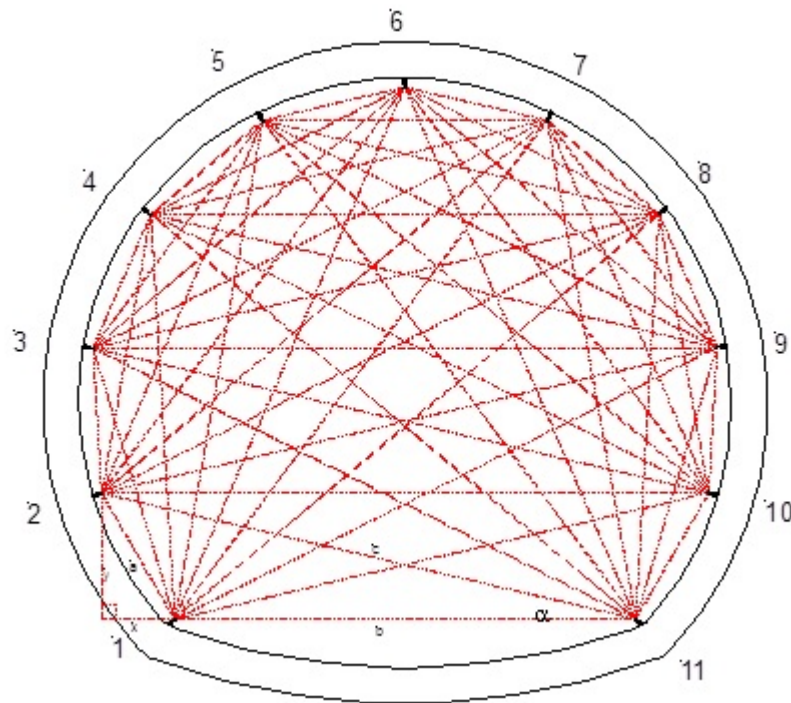

FIGURE 2-8 ACQUIRING ANCHOR COORDINATES
- 2 Measure the distance between each anchor. The distances “x” and “y” must also be obtained for every anchor relative to the first anchor measured to achieve the Anchor coordinates. Anchor Position “1” is (0,0). Refer to Figure 2-8.
It is highly recommended that baseline measurements be recorded using a RST Tape Extensometer following the same procedure as illustrated above and in Figure 2-8. Any movement occurrence may be verified by taking additional readings with the RST Tape Extensometer and compared to the baseline readings.